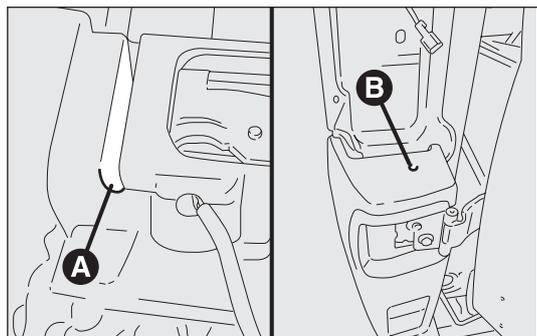

fig. 193
- ❑ unscrew the lower fastening A between the central and side bumpers fig. 193;